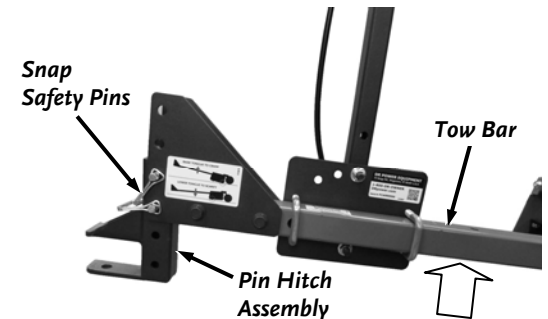

Figure 34
2. Remove the Snap Safety Pins (**Figure 34**) and adjust the Pin Hitch Assembly as described below:
- Position the Tow Bar to the highest position for most aggressive grading (**Figure 34**).